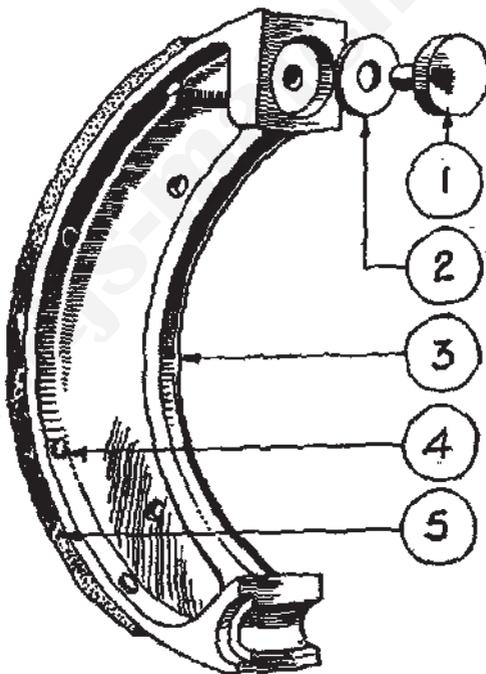

FIG. 42.—BRAKE SHOE AND THRUST PIN WITH PACKING WASHER.
The dotted outline shows the most effective position. In the position shown, either new liners or packing under the thrust pins (Fig. 42) are required.
Minor adjustment is effected by altering the position of the front-brake cable adjuster and finger adjuster on rear-brake rod. Major adjustment, to compensate lining wear, is achieved by packing washers (2) under the thrust pins (1), Fig. 42.
The dotted outline shows the most effective position. New linings or packing washers under the thrust pin (Fig. 42) are necessary when the arm takes up the position shown.